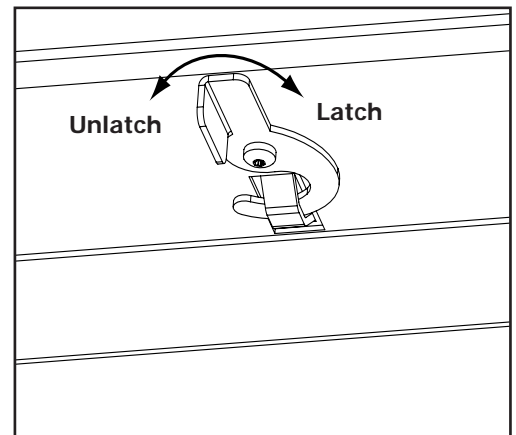
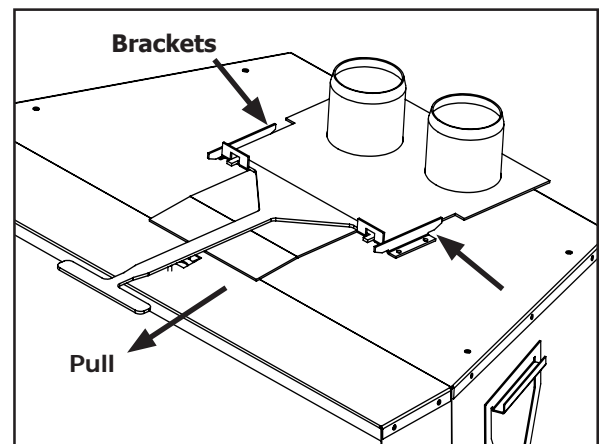

Figure 35: Vent Collar Plate Latch.
Figure 36: Vent Collar Plate Tool.
10. If the fireplace opening is lower than 24" (610 mm), remove the vent collar plate from the top of the insert by unlatching the hook located on the center top of the stove above the door opening (see Figure 35). Slide the collar plate backwards. Properly secure the vent collar plate to the flexible vent pipe liner(s) previously installed in the chimney. Be careful not to over-stretch the liner(s).
11. Apply a bead of stove cement sealant to the top section of the Ø3" (76mm) exhaust vent collar plate. Slide the Ø3" (76mm) flex vent over the flue collar and secure with three (3) sheet metal screws evenly spaced.
12. Place a bead of high temperature silicone on the intake collar of the fireplace, slide the Ø3" (76mm) flex intake liner over the collar, secure the flex liner with three (3) sheet metal screws evenly spaced.
14. As you push the unit into its final position in the fireplace, if the vent collar plate was removed, reinstall it on the stove by pulling it into the brackets on top using the supplied tool and latch it back in place (shown in Figure 36).